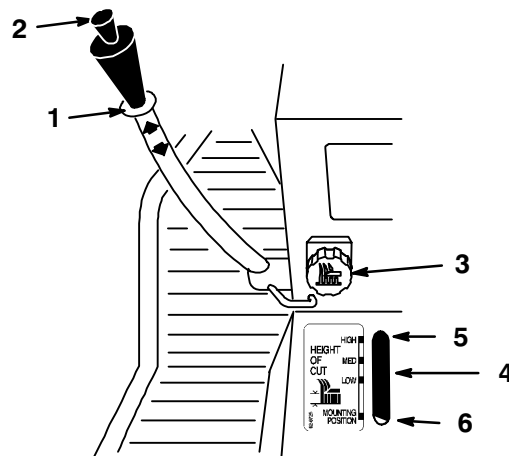

Figure 12
The attachment lift lever (Fig. 12) is used to raise and lower various attachments.
The Dial-A-Height control (Fig. 12) is used to limit the downward travel of the attachment. The Dial-A-Height knob is rotated to change the location of this stop, up or down.
1. Raise the attachment lift lever; refer to Raising Attachments. In the raised position the Dial-A-Height knob (Fig. 12) can be rotated to change the stop location. Turn clockwise to raise and counterclockwise to lower the height of the attachment.
2. The Dial-A-Height indicator (Fig. 12) will show the change, high to low, in attachment lift height as adjustment is made.